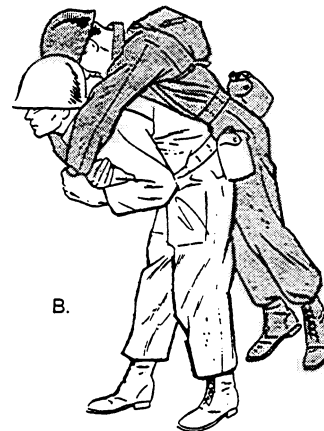

Figure 10-26.—Pack-strap carry.
2. Supporting the casualty with your arm around him, grasp his wrist closest to you and place his arm over your head and across your shoulders; then move in front of him while supporting his weight against your back grasp his other wrist, and place this arm over your shoulder (fig. 10-26, view A).
3. Bend forward and hoist him as high on your back as possible so all his weight is resting on your back (fig. 10-26, view B).